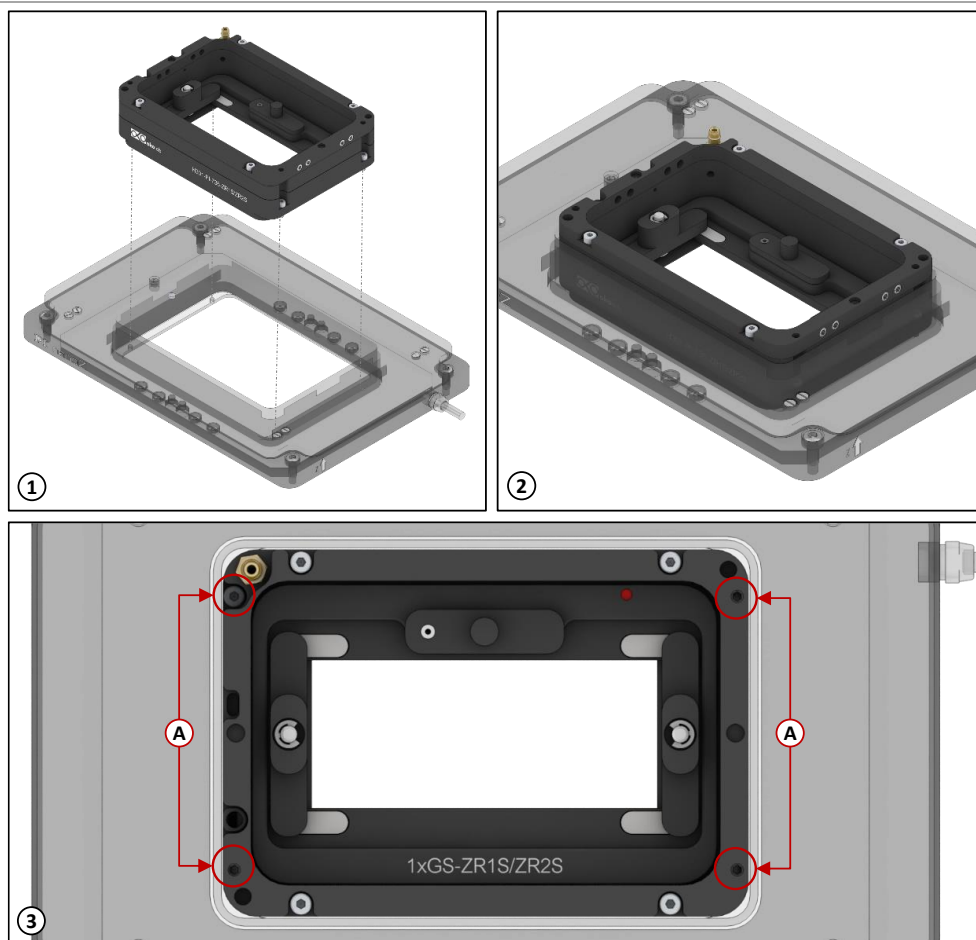

Figure 5. How to assemble the chamber on the stage.
To mount H301-PI-736-ZR1S/ZR2S chamber on the z piezo stage, follow the steps shown in Figure 5.
1. Slot the chamber main body into the stage, taking care to match the screws position (see 1 in Figure 5).
2. Fasten the four captive screws indicated by letter A using a 1.5 hexagonal key (see 3 Figure 5).